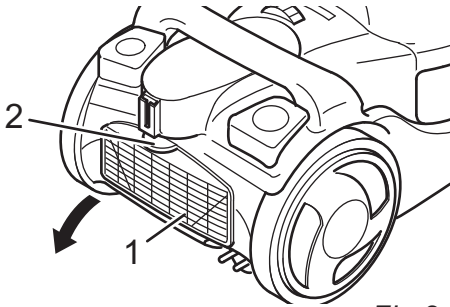

Fig.24
2. Open the blow-out filter cover (Fig. 24/1). To do this, press the lock (Fig. 24/2) down and pull the blow-out filter cover back.